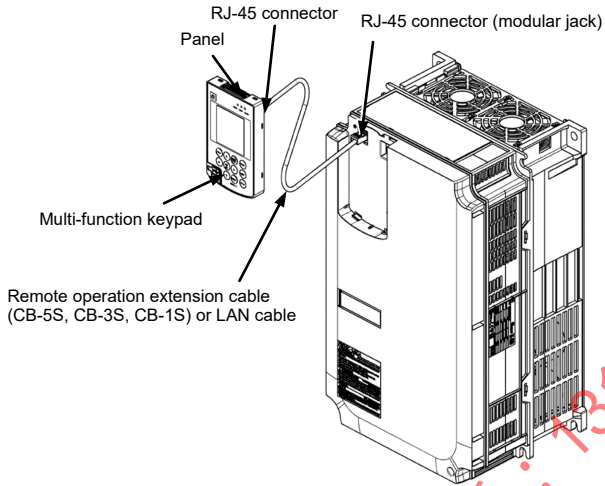

Figure 2.4 Connection to inverter
Refer to the procedure in steps (1) to (3) (Figure 2.2(a), Figure 2.3(a), Figure 2.4).
The panel cutout from previous products (TP-G1, TP-E1U) can be used (see Figure 2.2(b), Figure 2.3(b), Figure 2.4).
Refer to the procedure in step (3) (Figure 2.4).